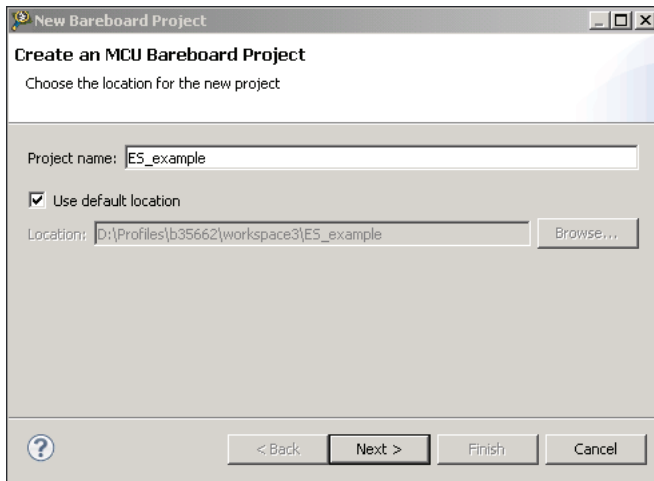

Figure 11. Create an MCU Bareboard Project
1. Create an MCU bareboard project and name it (see Figure 11).